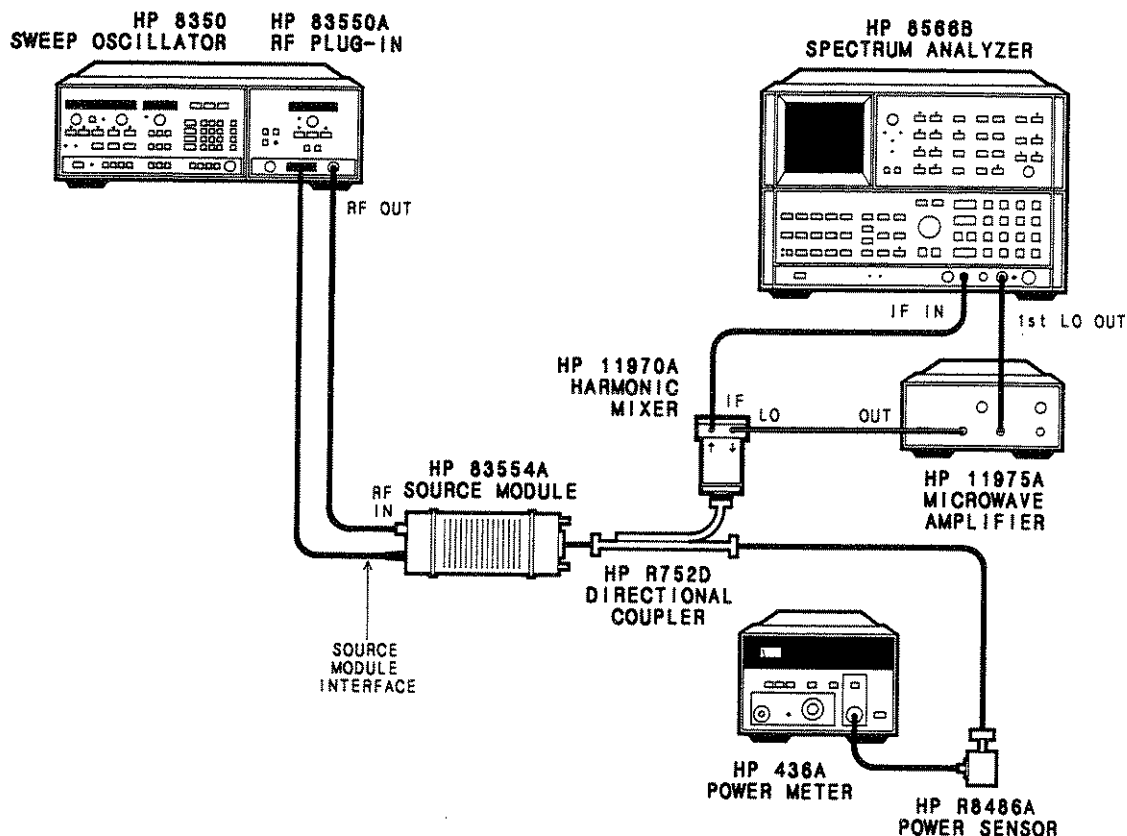

Figure 3-7. Multiplier 3/2 Harmonic Signals Typical Test Setup
The RF output signal from the source module is tuned from 26.5 to 26.7 GHz and 3/2 harmonics are displayed on a spectrum analyzer to verify that any harmonic spurious signals are at or below their specified levels. The test configuration in Figure 3-7 uses an external harmonic mixer to extend the frequency range of the spectrum analyzer. When this technique is used, the response is not pre-selected and multiple signals are displayed. Each response is examined not only for power level, but whether or not the signal is truly in band by using the spectrum analyzer's signal identification function.
1. Connect the equipment as shown in Figure 3-7. Turn on all system components.
Because the test configuration in Figure 3-7 specifies that the external mixer be connected to the coupled arm of a 20 dB directional coupler, the coupled power must also be taken into account when calculating reference level offset. The new equation is as follows: